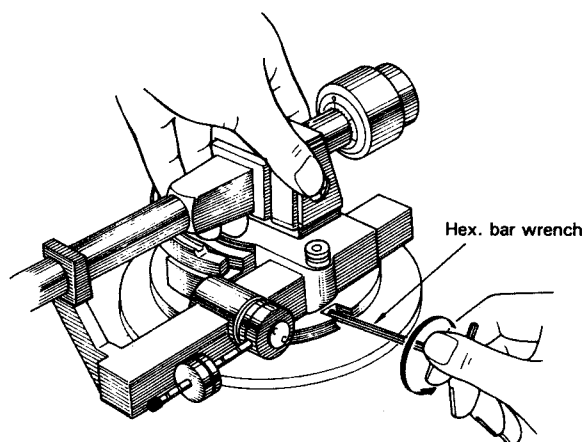

Fig. 16
- Hold the arm base with your left hand as shown in Fig. 16 and loosen the 2 tonearm height adjusting screws with the hex. bar wrench supplied.